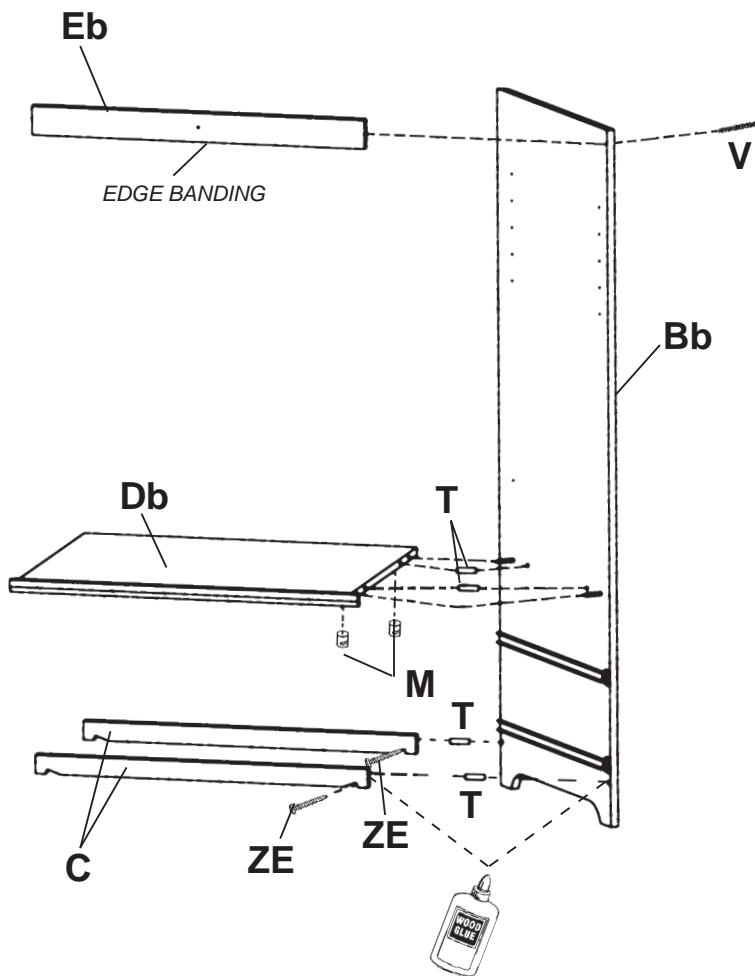

FIG. 2
- 2) Glue two Dowels (T) for Sleepers (C) into Right Side (Bb). Glue the two Sleepers (C) onto the dowels in the Right Side (Bb). The notches in the Sleepers should face toward the bottom of the unit and the outer edges should be flush with the edges of the Sides. Insert #8x1³/₄" Pan Head Screws (ZE) into the holes in the notches and fasten to the Right Side. See FIGURE 2.
Glue two Dowels (T) for Center Shelf (Db) into the Right Side (Bb). Attach the Center Shelf (Db) to the Right Side (Bb) using the dowels and two Cam Connectors (L) and Cam Housings (M). The moulding must face the front. See FIGURE 2.